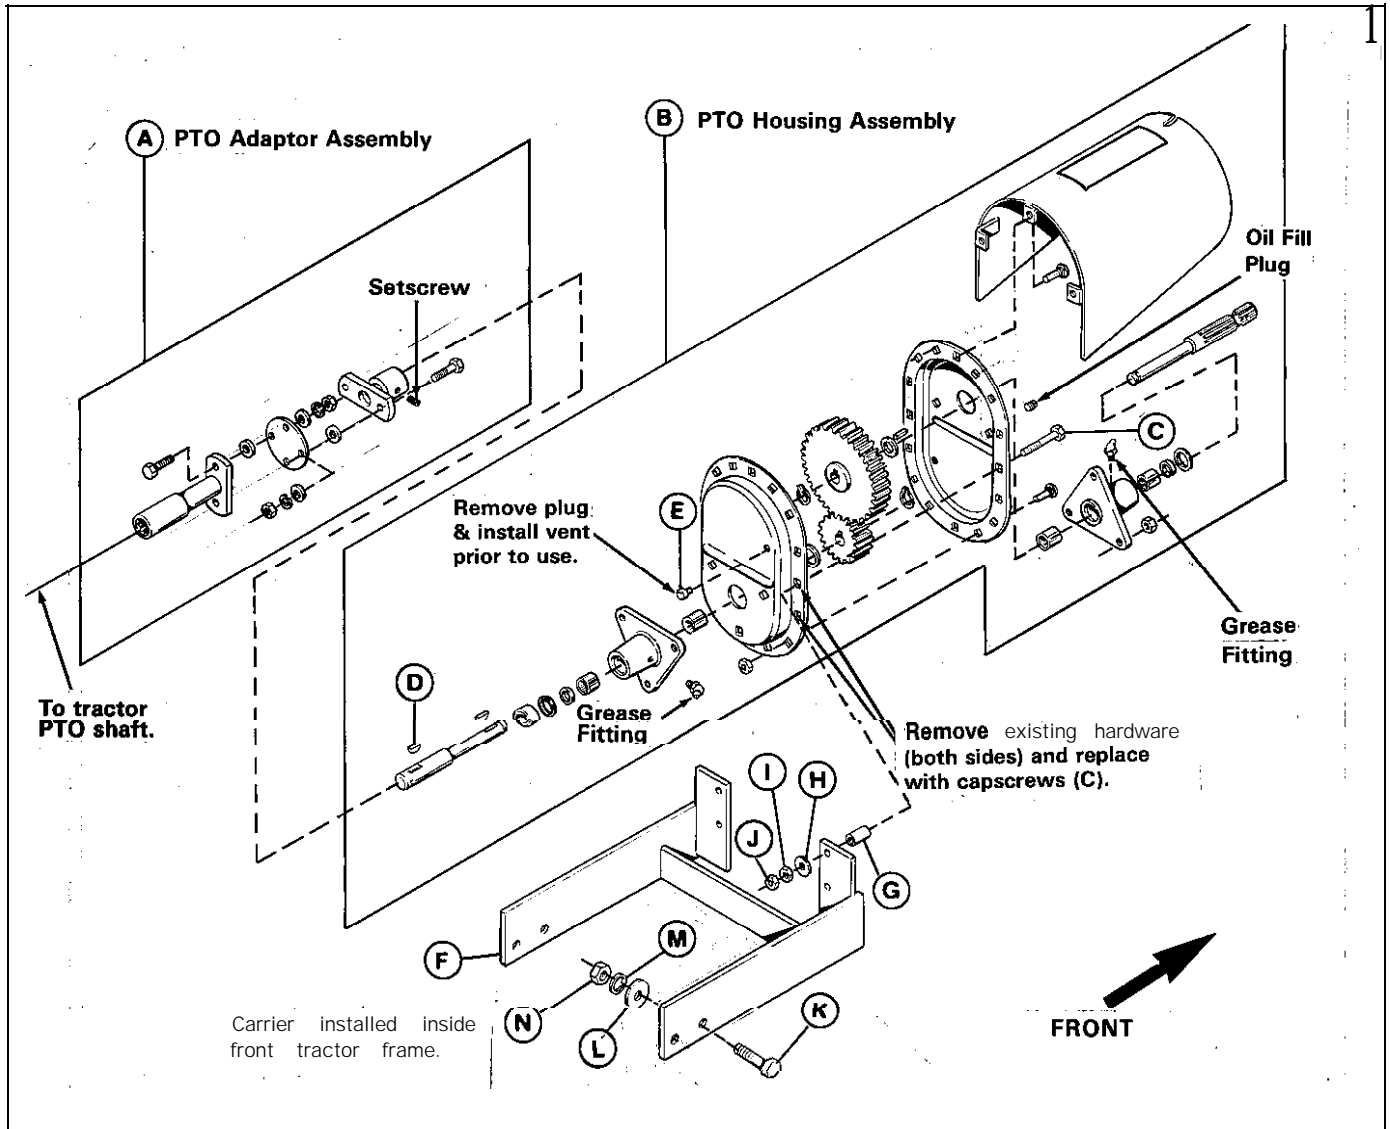

Figure 1.
The initial assembly of PTO carrier (F, **figure 1**) to **tractor** frame is easier with hood deck removed from tractor. To **remove** deck:
2. Check gear oil level every season by **removing** oil till **plug** on front side of PTO housing. Oil should be level with plug opening. Do not till oil to vent plug opening. Refer to **figure 1**.
3. Lubricate grease fittings on each side of PTO housing (B) **every** 25 hours of operation. Apply only 2-3 shots of standard automotive grease.